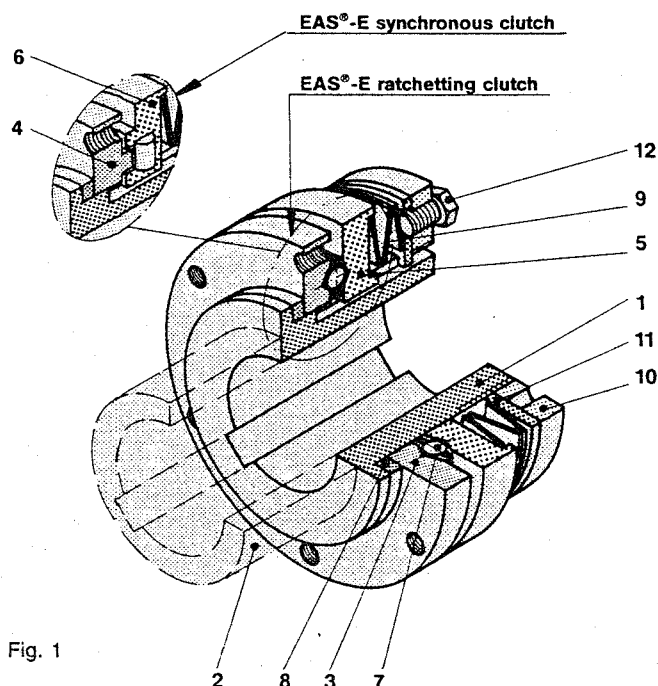

Fig. 1
The clutch is assembled in the reverse sequence of dismantling or according to figure 1. Grease the ball cage (7) of the ratchetting clutch and the recesses in the control element (5) and the pressure flange (3, 4).